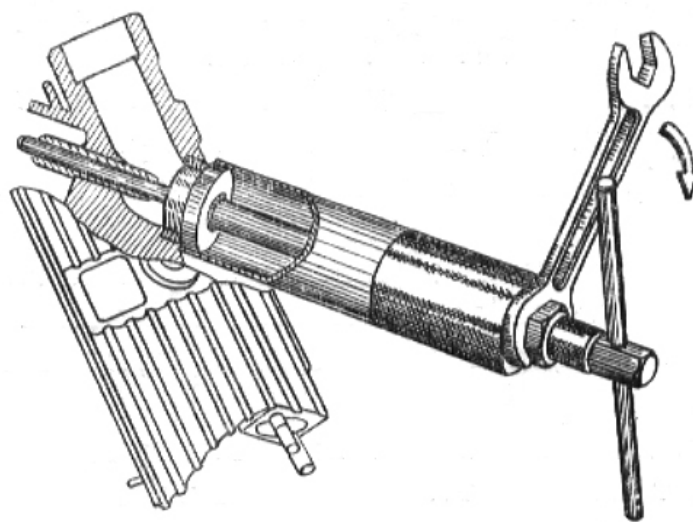

Fig. 42.
- Using the set of tools 345-326-3, 345-570-3 and 061-100-3 thread the valve seat bore, heat the cylinder head to 200 °C, screw in the puller and press out the valve seat (Fig. 42);